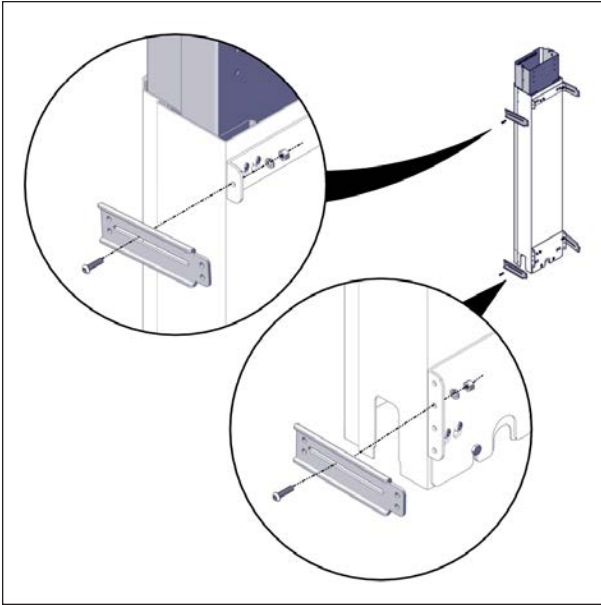

FIGURE 74: MOUNT BRACKET ARM INSTALLATION
3. Install the top and bottom mount bracket arms on one of the sleeves, see Figure 74.